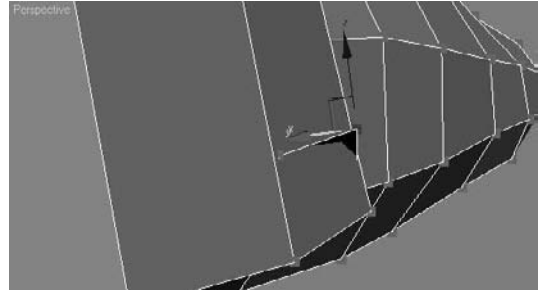

Figure 5.33
4. Check to make sure that the new edges don't poke through the mesh (in Figure 5.33). If any do, select the vertex and move them inward.